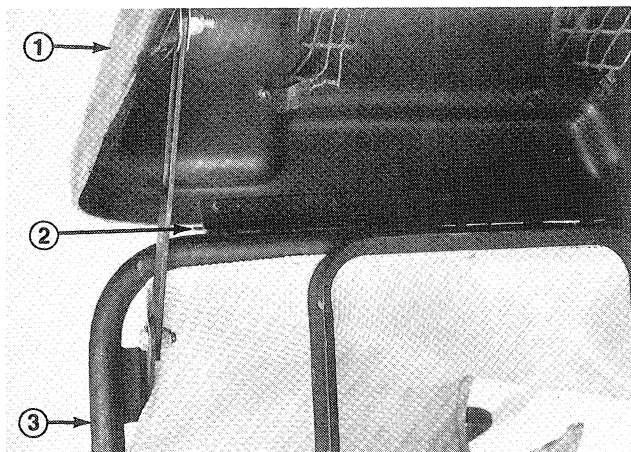

Figure 6
3. Connect hood assy. to upper support tube assy. with hinge pin (Fig. 6).